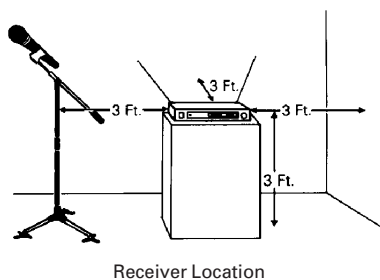

Figure B1-Antenna Position
Antenna Position (Fig. B1)
1. ANTENNAS: Position the antennas as shown in Figure B1.